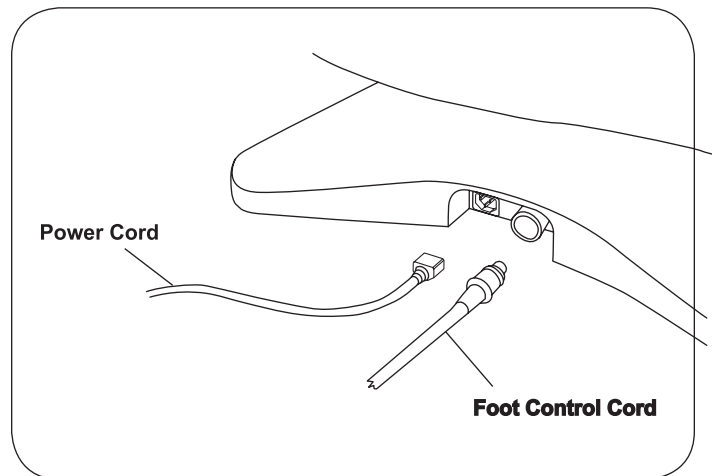

Figure 6. Power Cord & Foot Control Cord Receptacles
2. Insert the end of the cord into the foot control receptacle on the table (Figure 6). Make sure the tab in the cord receptacle is pointing upward and receptacle is fully seated. Test the foot control for operation.